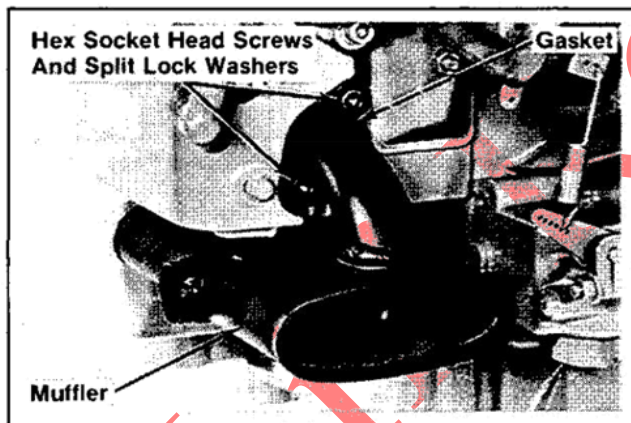

Figure 11-59. Installing Mufflers.
1. Install the gaskets, mufflers, split lock washers, and hex socket screws. Torque screws to **150 in. lb.** Refer to Figure 11-59.